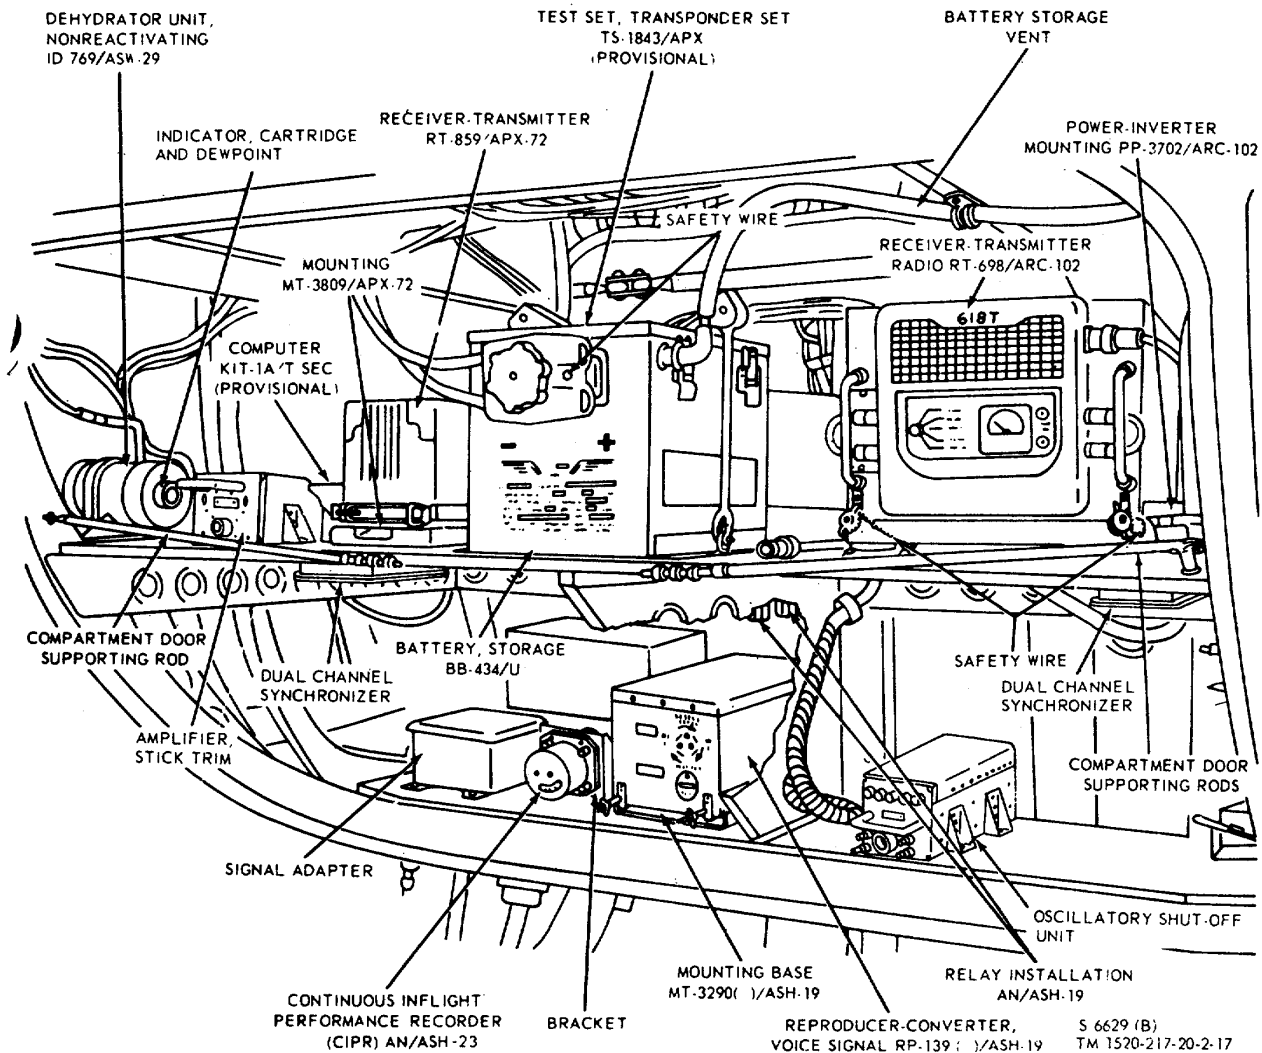

Figure 2-12. Nose electronics compartment component location.
g. *Removal and Replacement of Transponder Set AN/APX-72* (fig. 2-12). Remove all components of the AN/APX-72 except Control,. Transponder
(1) *Removal of Receiver-Transmitter RT859/APX-72* (fig. 2-12).
(2) *Replacement of Receiver-Transmitter RT-859/APX-72* (fig. 2-12).
(3) *Removal of Mounting MT-3809/APX-72* (fig. 2-12).
(4) *Replacement of Mounting MT-3809/ APX-72* (fig. 2-12).
h. Removal and Replacement of Test Set, Transponder Set TS-1843/APX (fig. 2-12). Cabling and space are provisional for the installation of the TS-1843/APX. A UG-29B/U connector is inserted between the antenna cable and the cable that connects to J5 ANT connector on the RT859/APX-72. The UG-29B/U completes the RF path to the antenna, when the TS-1843/APX is not installed.
(1) Removal of Test Set, Transponder Set TS-1843/APX (fig. 2-12).
(2) Replacement of Test Set, Transponder Set TS-1843/APX (fig. 2-12).
(3) *Removal of Mounting MT-3513/APX* (fig. 2-12).
(4) Replacement of Mounting MT-3513/APX (fig. 2-12).
i. Removal and Replacement of Voice Warning System AN/ASH19 (fig. 2-12). Remove all components of the voice warning system except for the voice warning system control panel by following the procedures below. Remove the voice warning system control panel by following the procedures in paragraph 2-14.
(1) Removal of Reproducer-Converter, Voice Signal RP-139()/ASH-19 (fig. 2-12).
(2) Replacement of Reproducer-Converter, Voice Signal RP-139()/ASH-19 (fig. 2-12).
(3) Removal of Mounting Base MT-3290()/ASH-19 (fig. 2-12).
(4) Replacement of Mounting Base MT-3290()/ASH-19 (fig. 2-12).
(5) Removal of AN/ASH-23 (fig. 2-12).
(6) Replacement of AN/ASH-23 (fig. 2-12).
(7) Removal of Support Bracket, Recorder (fig. 2-12).
(8) Replacement of Support Bracket, Recorder (fig. 2-12).
(9) Removal of Signal Adapter (fig. 2-12).
(10) Replacement of Signal Adapter (fig. 2-12).